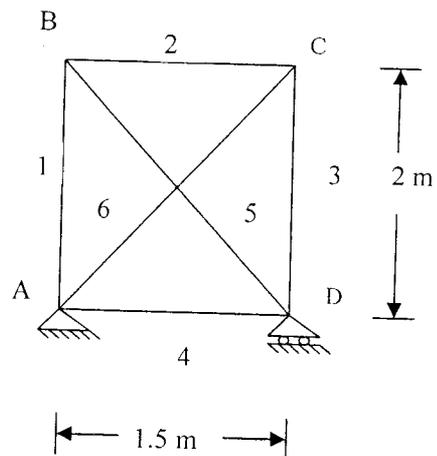

Fig. 8
- (b) Find the forces in members of the truss shown in fig. 8 due to lack of fit of the members as indicated below. Take $E = 210 \text{ GPa}$.